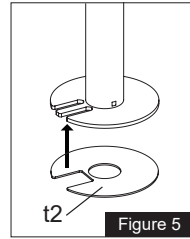

Figure 5
2. Attach soft pad (**T2**) to the grommet base plate (**M**), see Figure 5.
3. Attach Soft Pad (**T2**) to the Grommet Base Plate (**M**), see Figure 5.